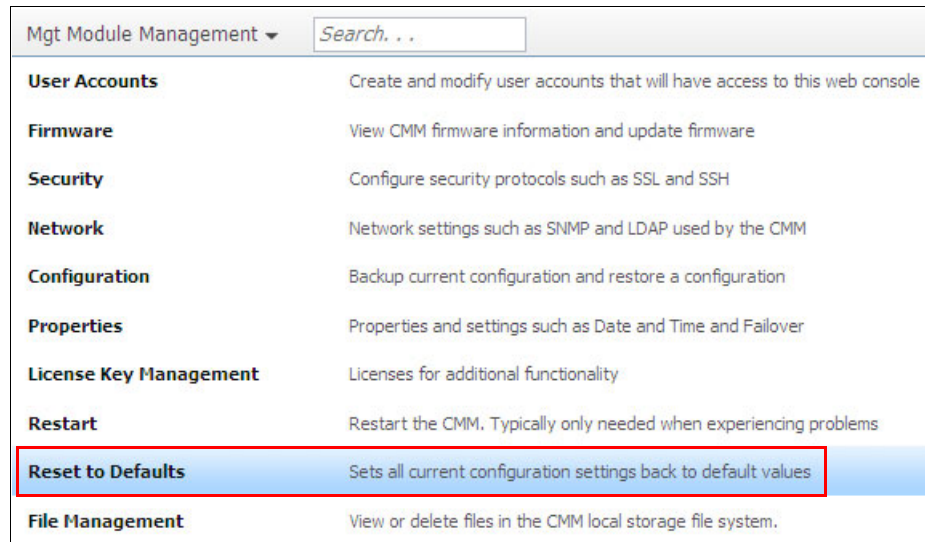

Figure 4-35 Mgt Module Management: Reset to Defaults
- ▶ In the CMM web interface, select **Reset to Defaults** from the Mgt Module Management menu, as shown in Figure 4-35.